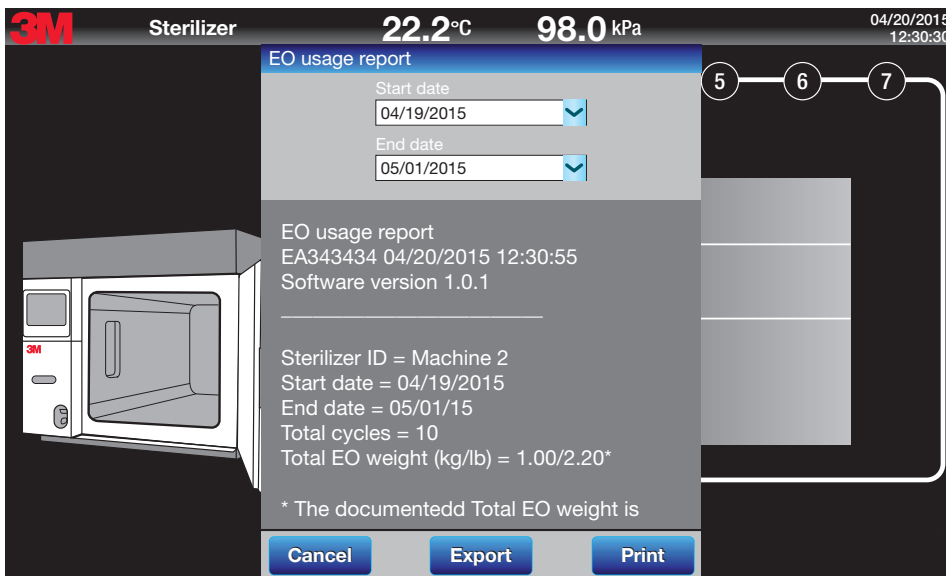

Figure 13. Selecting Dates for EO Usage Reports
Generate a report for ethylene oxide (EO) usage from the **Menu>Reports>EO Usage Report** screen. Generate an EO Usage Report for specific dates as illustrated in Figure 13. View the report on the display screen, print the report directly from the sterilizer, or export electronically to a USB drive. Figure 14 is an example of a printed EO Usage Report.